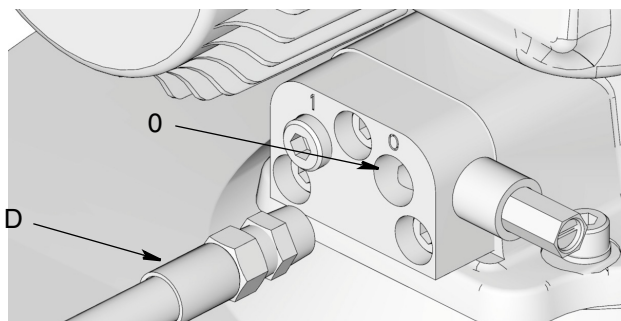

FIG. 11: Lubricant Outlet Connection
8. Connect the timer/controller (F) (user supplied, if used).
9. Connect High Pressure Lubricant Supply Line (D) to the Lubricant Output Connection (0) (FIG. 11) on the Vent Valve or Manifold.